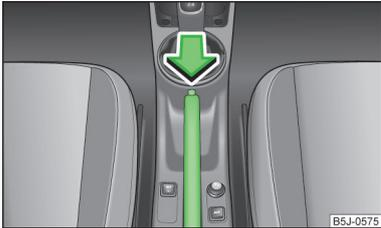

Fig. 103
- Pull the handbrake lever up slightly **and at the same time** push in the locking button » Fig. 103.